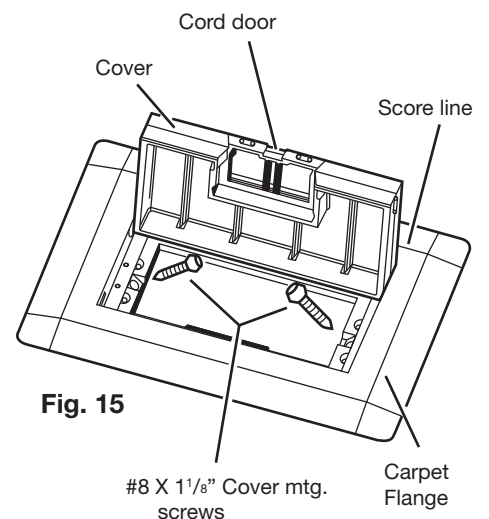

Fig. 15
5. To attach Cover to Floor Box, insert #8 x 1 1/8" pan head screws (provided with Cover) into angled holes at the ends of Cover and tighten into Floor Box ends. (**Fig. 15**)